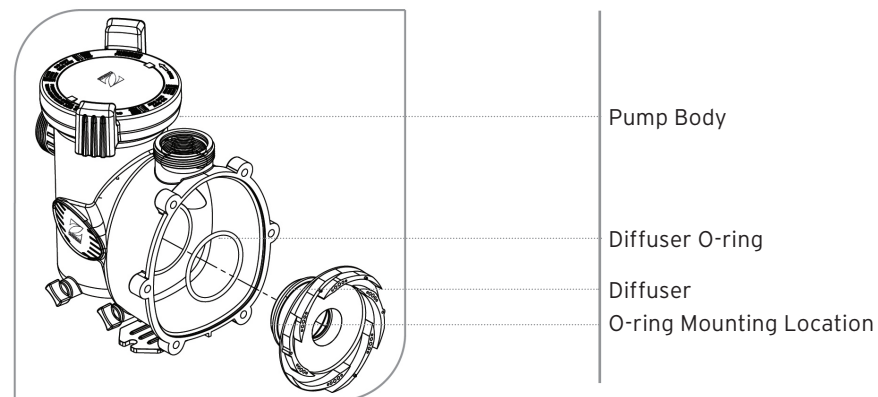

Figure 6. Pump Body and Diffuser Exploded View
4. Replace the diffuser over the impeller, using care to insert alignment pins into the correct holes. The alignment pins in the diffuser allow the diffuser to be inserted only one (1) way. Align the arrow to the backplate with the arrows on the diffuser.
5. Replace the two (2) small Phillips-head screws. Tighten the screws to draw the diffuser against the motor backplate.
6. Make sure the diffuser o-ring, o-ring groove, and o-ring seal area are clean and free of debris, which could cause a leak. If you removed the diffuser o-ring during disassembly, re-install it on the diffuser, as shown in *Figure 6*. If grease is used to retain the diffuser o-ring, it **must be silicone based. Do not use petroleum-based grease.** It will destroy the o-ring.